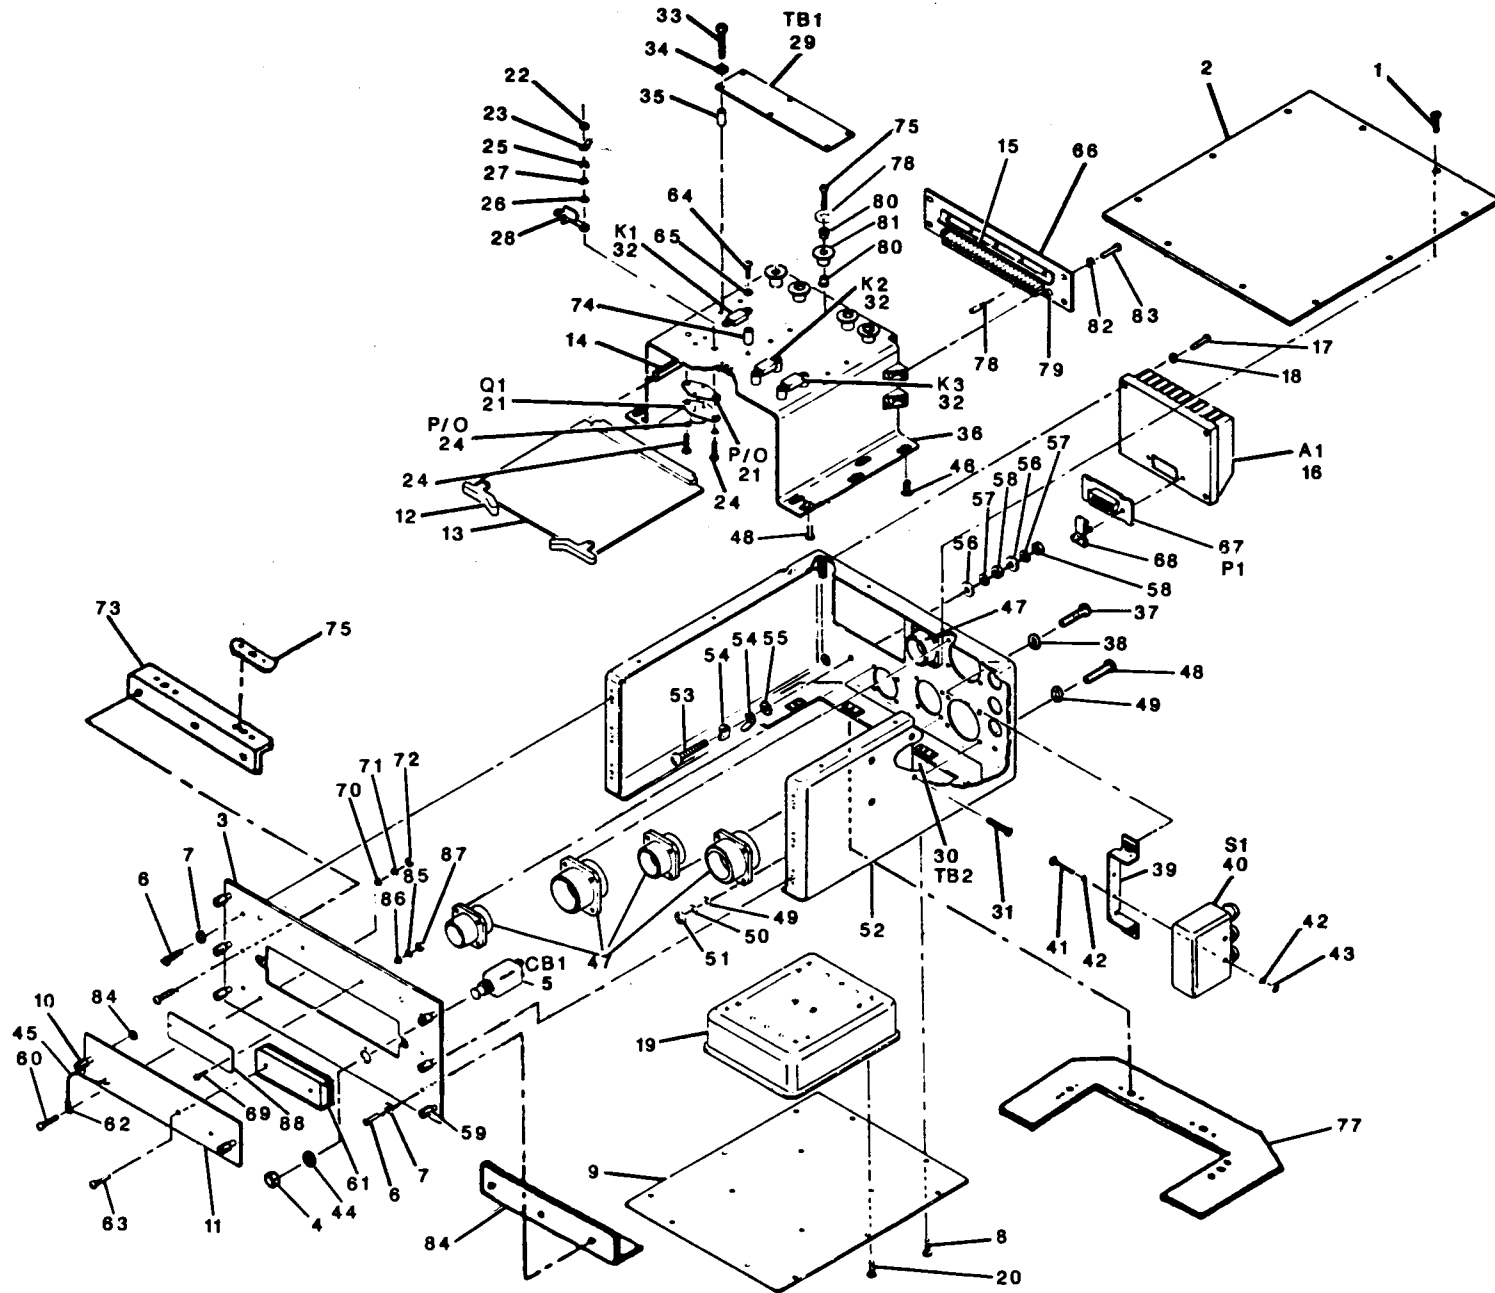
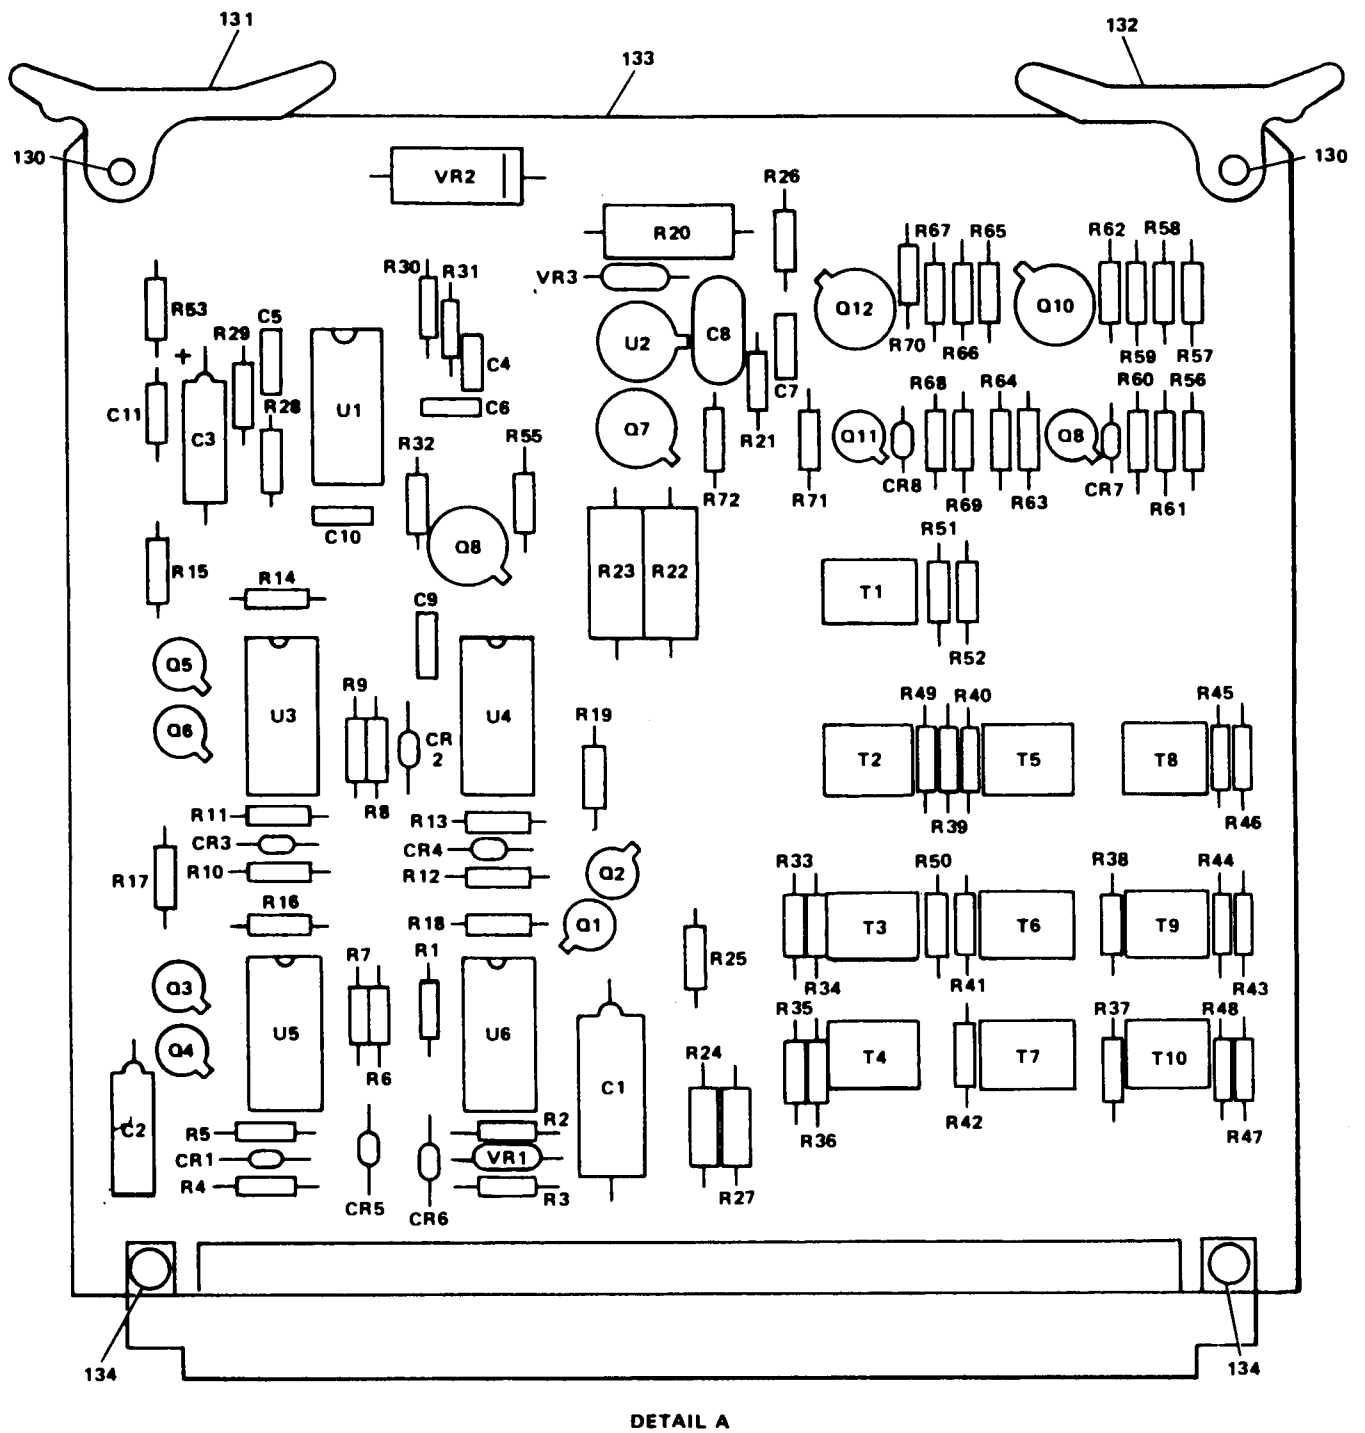
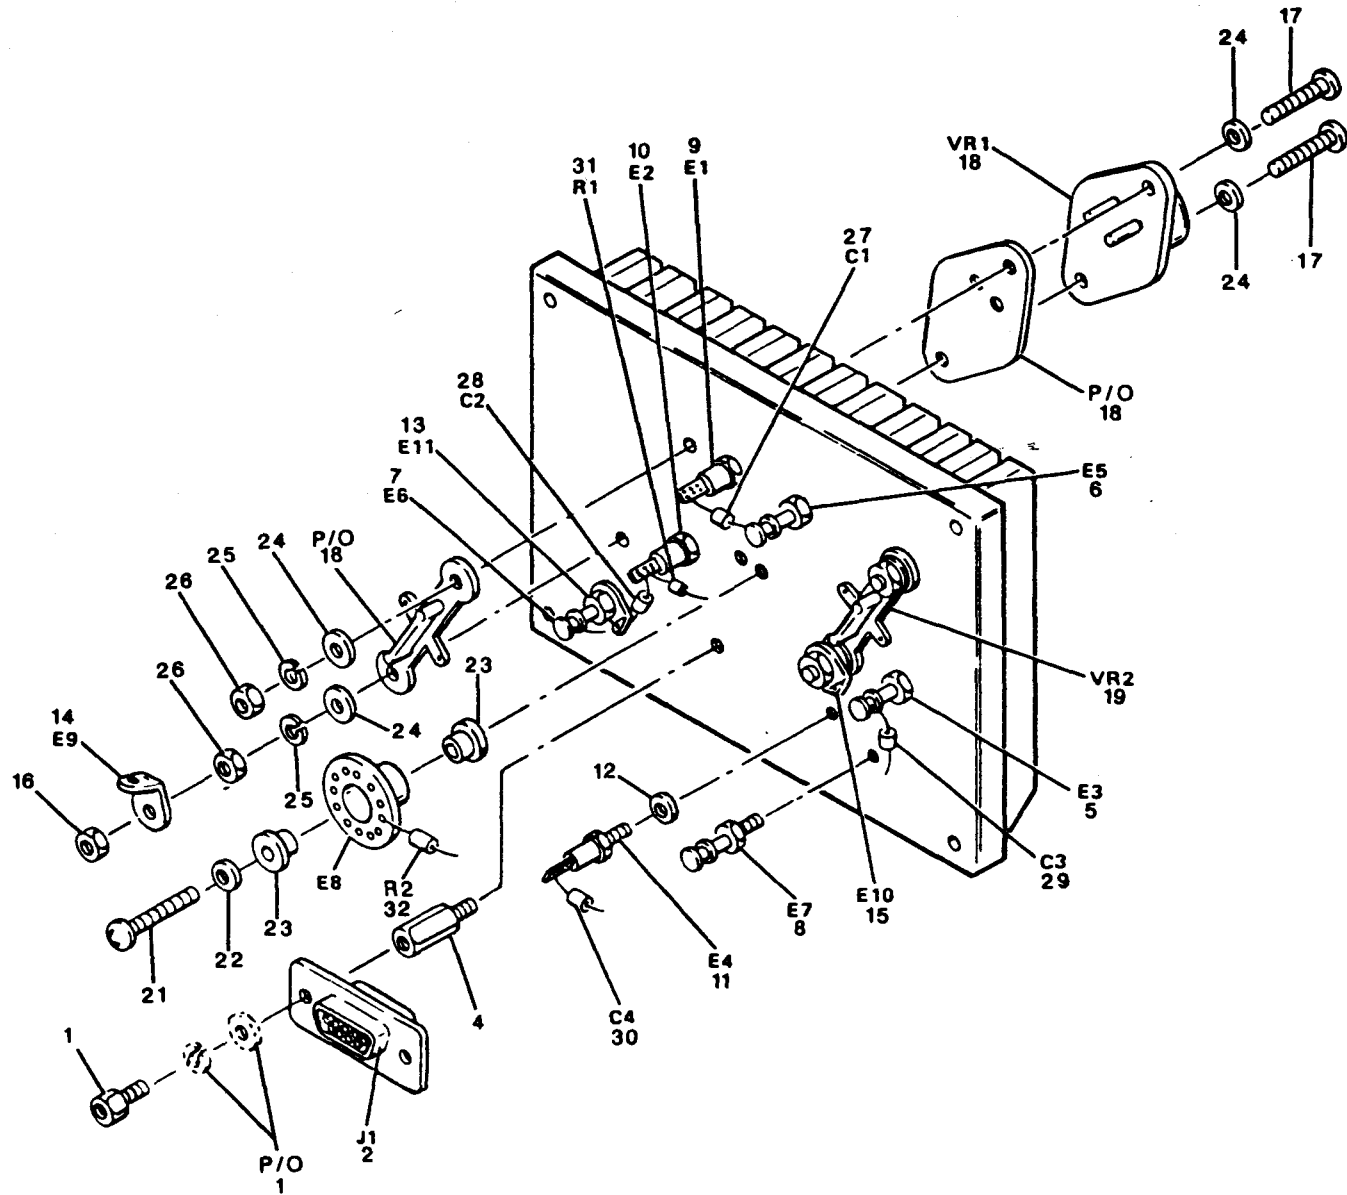

Figure 5-13. Countermeasures Control Component Locations
Figure 5-14. Indicator CCA A3 Component Locations
Figure 5-15. Voltage Regulator A1 Component Locations
5-12. Countermeasures Control Procedures. Countermeasures control maintenance consists of removing the top cover and, if required, repairing the unit using the following procedures. Figure 5-13 shows countermeasures control component locations. Procedures reference components by numbers keyed to figure 5-13.
- (1) Refer to figure 5-13. Remove the 10 screws (1) and top cover (2) .
- (2) To replace top cover (2), align cover with the mounting holes on chassis (52) and install the 10 screws (1).
b. Front Panel Removal and Replacement. Refer to figure 5-13 and proceed as follows:
- (1) Remove six screws (6) and flat washers (7) that secure front panel (3) to chassis (52).
- (2) Remove top cover in accordance with paragraph 5-12a.
- (3) Remove two screws (8) that secure bottom cover (9) to front panel (3), then pull front panel out of the chassis (52).
- (4) On front panel (3), remove outer collar nut (4) and lock washer (44) from circuit breaker (5).
- (5) To replace front panel (3), place the circuit breaker (5) in the front panel (3) and install the outer collar nut (4) and lock washer (44) on the circuit breaker.
- (6) Align the front panel (3) with the mounting holes and install the six mounting screws (6) and flat washers (7) that secure the front panel to the chassis (52).
- (7) Install the two screws (8) that secure the bottom cover (9) to the front panel (3).
- (8) Install the top cover in accordance with paragraph 5-12b.
c. Bottom Cover Removal and Replacement. Refer to figure 5-13 and proceed as follows:
- (1) Place unit bottom-side up and remove 10 screws (8) that secure cover (9) to ECM bracket (36), chassis (52), and front panel (3).
- (2) Remove four screws (20) that secure FL1 (19) to bottom cover (9), then remove cover.
- (3) To replace the bottom cover (9), secure FL1 (19) to the bottom cover (9) with four screws (20).
- (4) Place the unit bottom-side up and align the bottom cover (9) with the mounting holes on the chassis (52) and install the 10 screws (8).
d. Front Panel Plate Removal and Replacement. Refer to figure 5-13 and proceed as follows:
- (1) Release two turnlock studs (10) that secure front panel plate (11) to front panel (3).
- (2) Remove screw (60), washer (62), washer (70), lock washer (71), and nut (72) that secure chain (45) to plate (11).
- (3) To replace front cover plate (11), secure chain (45) to plate (11) with screw (60), washer (62), washer (70), lock washer (71), and nut (72), then secure plate (11) to front panel (3) with two turnlock studs (10).
- (4) Refer to section V of this chapter.
e. PCB Retainer Removal and Replacement. Refer to figure 5-13 and proceed as follows:
- (1) Remove front panel plate (11) in accordance with paragraph 5-12d.
- (2) Remove two screws (63) that secure PCB retainer (61) to front panel plate (11).
- (3) Replace PCB retainer (61) to front panel plate (11), using two screws (63).
- (4) Replace front panel plate (11) in accordance with paragraph 5-12d.
- (5) Refer to section V of this chapter.
f. Indicator CCA A3 Removal. Refer to figure 5-13 and proceed as follows:
- (1) Turn the two turnlock studs (10) CCW and remove the front panel plate (11) in accordance with paragraph 5-12d.